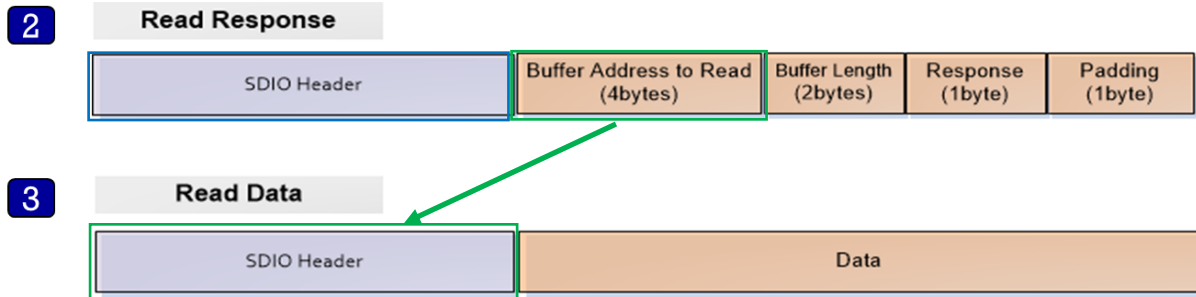

Figure 16: Structure
2. The Host reads the response message from Response Command address (0x50080258, blue rectangle in Figure 16), and parse it using `struct _st_host_response` (see 3.2.6).
3. The Host reads data from address (BUFF_ADDR) which is received from Slave in the response message (green rectangle in Figure 16).